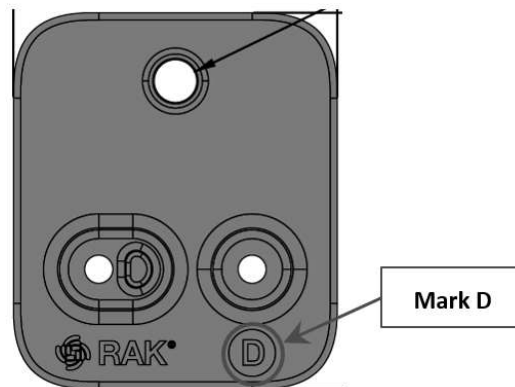

Figure 20: Mount accessory marked with the letter D
1. For wall mount, use two (2) pieces of mount accessories with an indicator marked with the letter **D**, as shown in **Figure 20**.